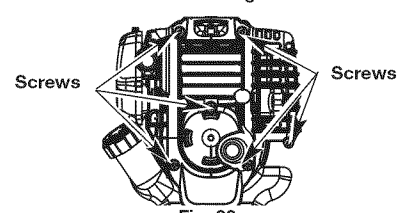

Fig. 29
- Remove the six (6) screws on the back of the engine cover with a Flat-head or T-25 Torx screwdriver (Fig. 29).
- Remove the engine cover (Fig. 29).
- Stop the engine and allow it to cool. Remove the six (6) screws on the back of the engine cover with a Flat-head or T-25 Torx screwdriver (Fig. 29).